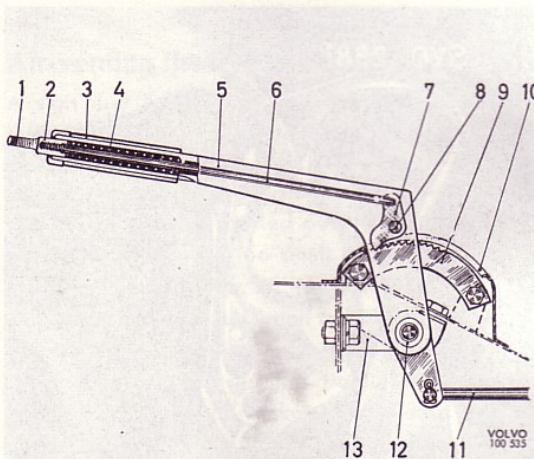

Fig. 49. Handbrake lever, P 120.
2. Remove the split pin and pull the cables so that the pull rod (11, Fig. 49) can be removed from the lever. Remove the bracket (13).
5. Screw out the locking screw and remove the loop (1, Fig. 49) and button (2). Take out the spring (4) from the lever. Remove the rivet (8) and take out the push rod (6) and pawl (7).
6. Fit the new parts in the reverse order, see Fig. 49. Make sure that the rivet is properly secured without the movement of the pawl being affected. Lubricate the bushes with a thin layer of ball bearing grease. Do not forget to lock the pull rod and ensure that the rubber cover on the shaft seals properly.